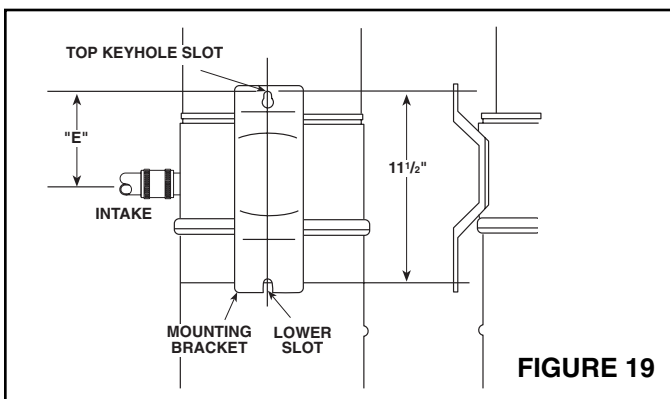

FIGURE 19
2. Drill 3/16" diameter pilot holes for the two (2) mounting screws in a wall stud or strong support. See Figure 19.